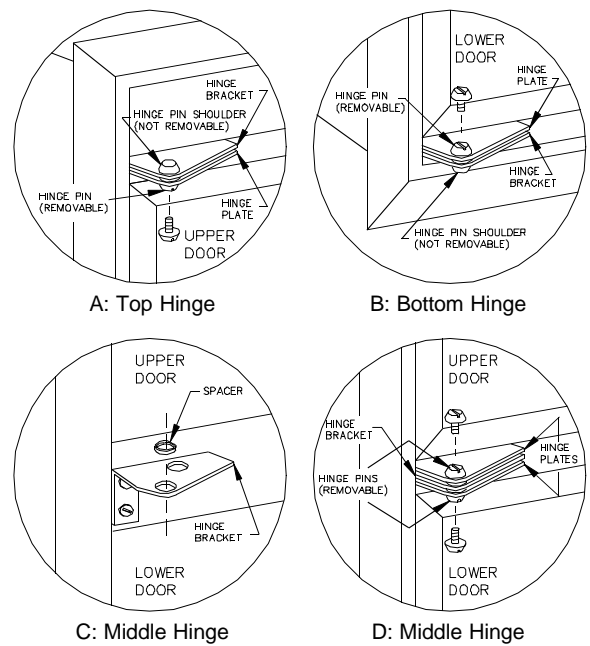

Figure 19
2. Remove the top hinge pin using one of the slotted screwdrivers. Remove the center hinge pin (both pieces) using the two slotted screwdrivers; one on each end of the pin. Lastly, remove the bottom hinge pin. Be sure to save the pins for reassembly later. (See Figure 19)